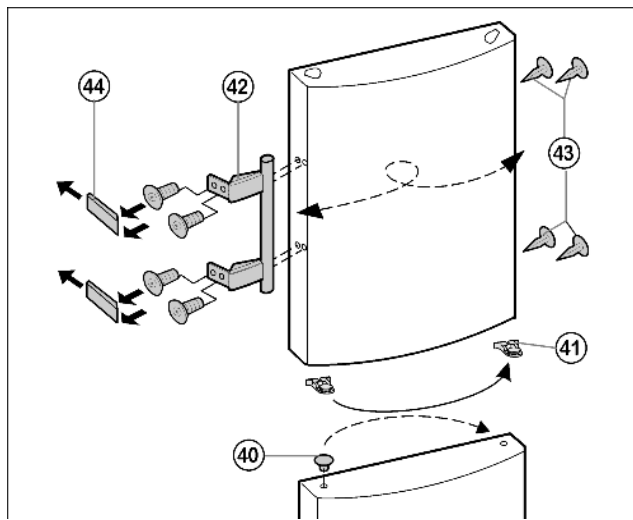

Fig. 8
- ▶ Disengage the spring clip *Fig. 8 (41)* from the upper door and transfer it to the new hinge side.
- ▶ Lift the stopper *Fig. 8 (40)* out of the lower door bearing bush and transfer it.
- ▶ Detach the door handles *Fig. 8 (42)*, stoppers *Fig. 8 (43)* and pressure plates *Fig. 8 (44)* and transfer to the opposite side.